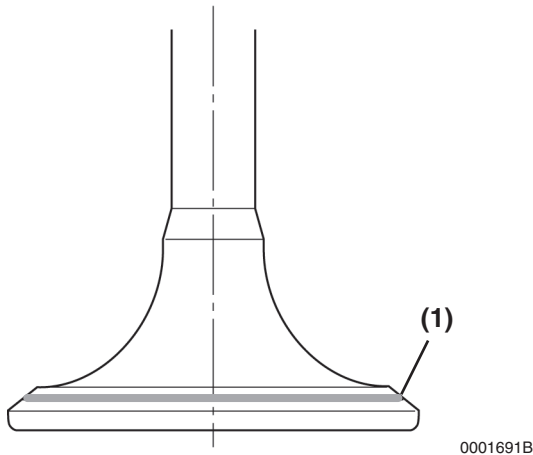

Figure 6-22
Coat the valve seat with a thin coat of bluing compound. Install the valve and rotate it to distribute bluing onto the valve face. The contact pattern should be approximately centered on the valve face (**Figure 6-22, (1)**) and even in width.